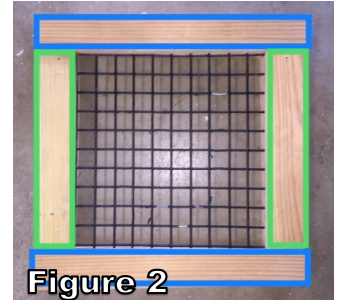

Figure 2
4. Sandwich the mesh between the two frames. Alternate the frames so that the longer pieces of wood are sitting overtop the smaller pieces (see Figure 2).